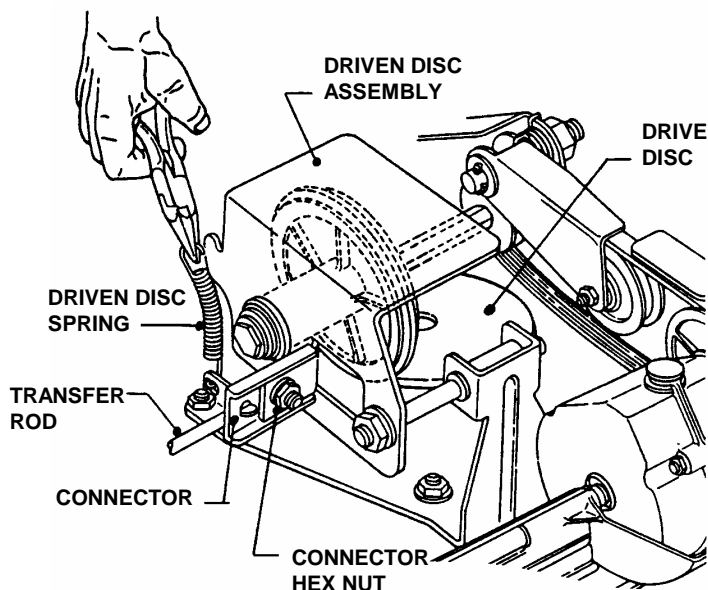

FIGURE 4.9
2. Remove driven disc spring from driven disc assembly. Loosen connector hex nut. See Figure 4.9.